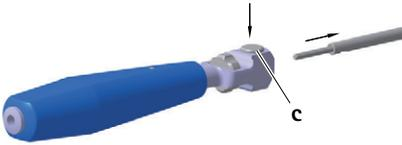

Fig. 2
- ▶ Press button **c** and remove handle **1**, see Fig. 2.